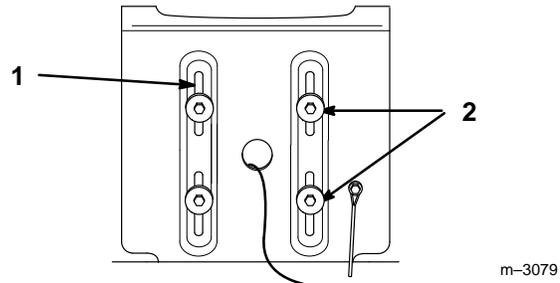

Figure 11
1. To adjust tip seat forward and loosen the seat mounting bolts (Fig. 11).